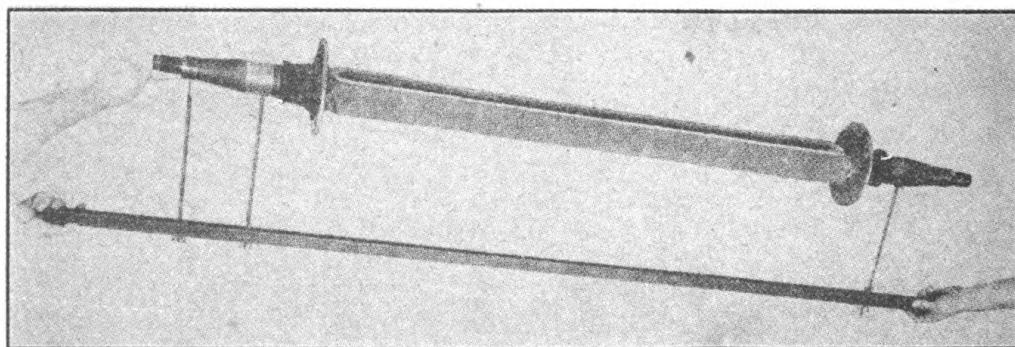

FIGURE 8. CHECKING AXLE FOR BEND.
3. CHECKING FOR BEND (Figure 8).—